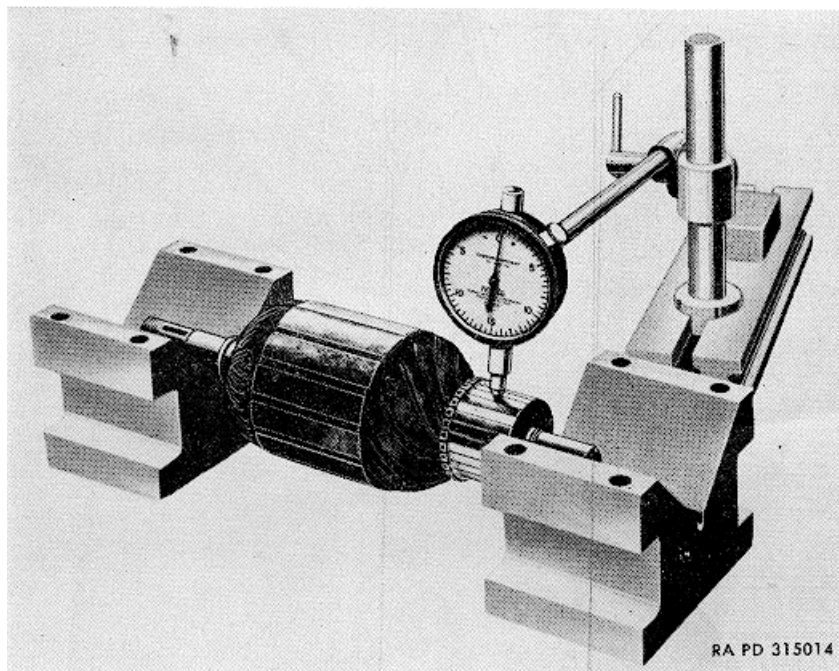

Figure 16. Method of measuring commutator out-of-round.
l. Measure commutator out-of-round. Place armature, with shaft bearing seats on V-blocks, and mount test indicator with plunger against commutator (fig. 16). Rotate armature and measure total out-of-round. If the difference between the maximum and minimum dial readings is greater than 0.010 inch, turn down commutator (o below).